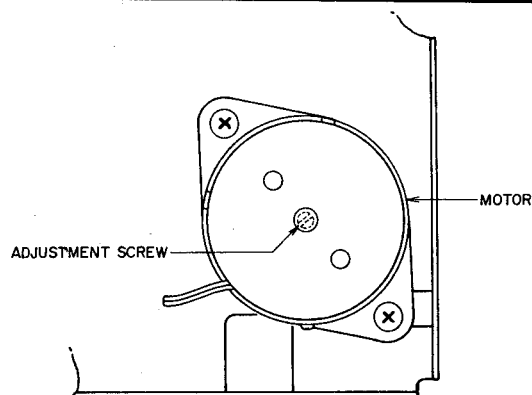

Fig. 6-8
b) TAPE SPEED (Refer to Fig. 6-8)